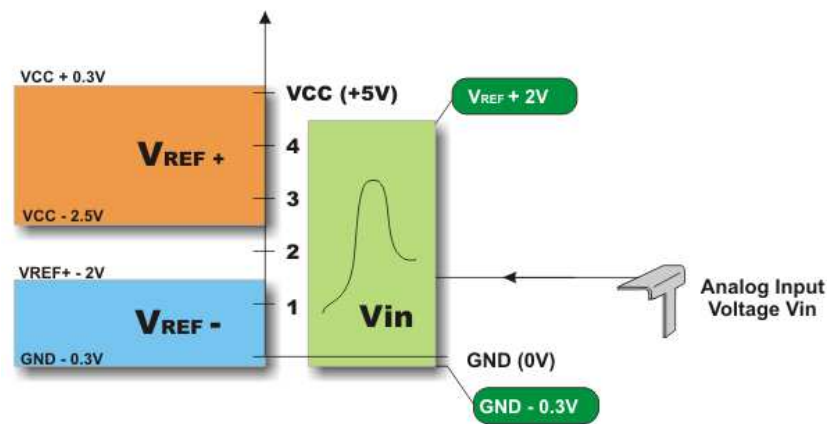

Fig. 7-3 How to Use The A/D Converter
- When the port with analog inputs marked as CH0-CH13 is read, the corresponding bits will be driven to logic zero (0); and
- Roughly speaking, voltage measurement in the converter is based on comparing input voltage with internal scale which has 1024 marks (210=1024). The lowest scale mark stands for the Vref- voltage, whilst the highest mark stands for the Vref+ voltage. Figure 7-3 below shows selectable referent voltages and their minimum and maximum values as well.